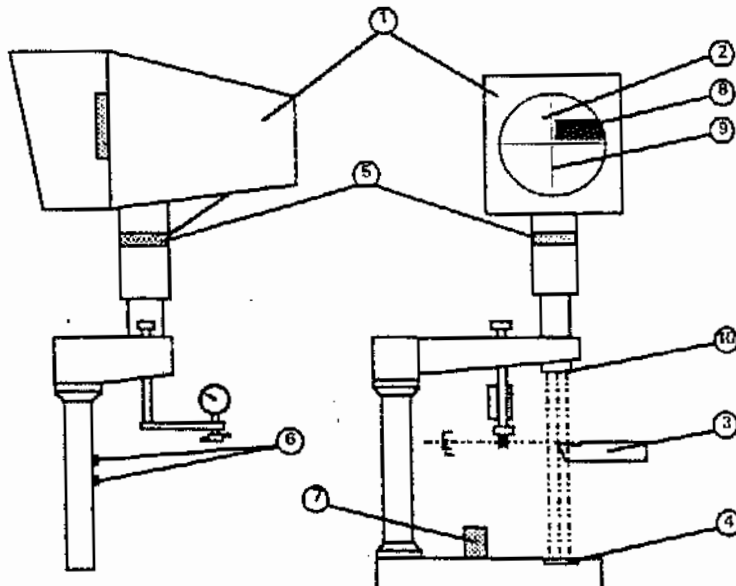

Fig. 5: Profile Projector screening
A contour is assessed visibly using the profile projector (1) (Fig. 5). The tool cutting edge (3), which lies in the centre line between the light source (4) and the projector, is shown in 20 times magnification as a shadow outline (8) on the focusing screen (2) of the projector. The adjusting dial (5) is turned to the left or right by  $\pm 2.5$  mm to sharpen the image of the measurement object.